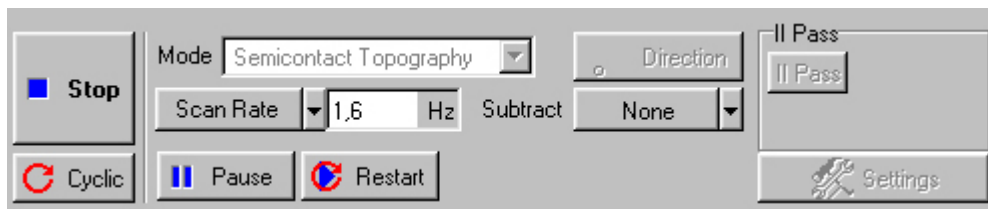
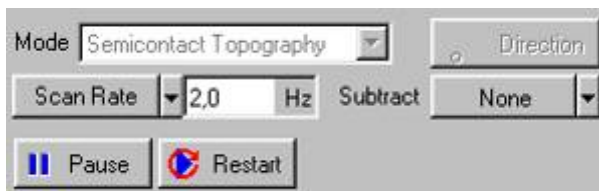

Fig. 4-36
Fig. 4-37
- Some buttons would disappear from **SCAN** panel and a number of new buttons would appear (Fig. 4-36): **Pause**, **Restart**, and **Stop**.
That inclination might be subtracted in the process of scanning by means of use **Subtract** button. By default, it is in **None** state (Fig. 4-36, Fig. 4-37).